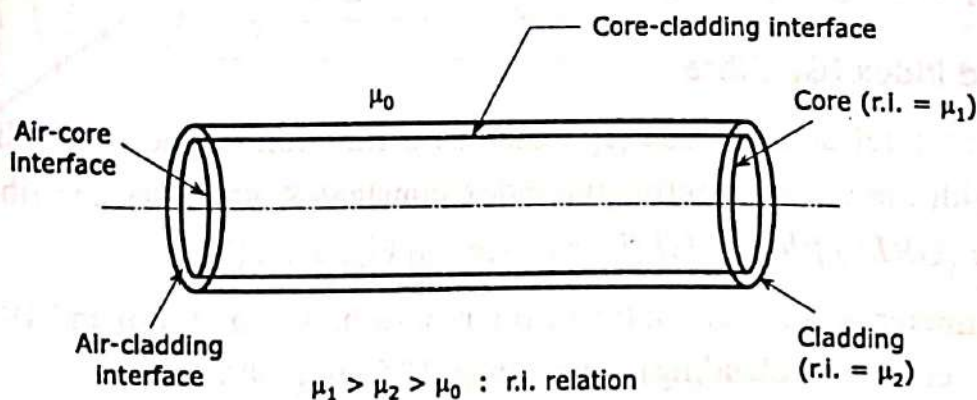

Fig. 2.20 : Structure of optical fibre
- The transmission properties of an optical fibre depends on its structural properties. In the most widely accepted structure, an optical fibre consists of an inner solid dielectric cylinder made up of high-silica-content glass known as the **core** of the fibre. The core is surrounded by a solid cylindrical dielectric shell, generally made up of low-silica-content glass or plastic. This is known as **cladding** as shown in Fig. 2.20.